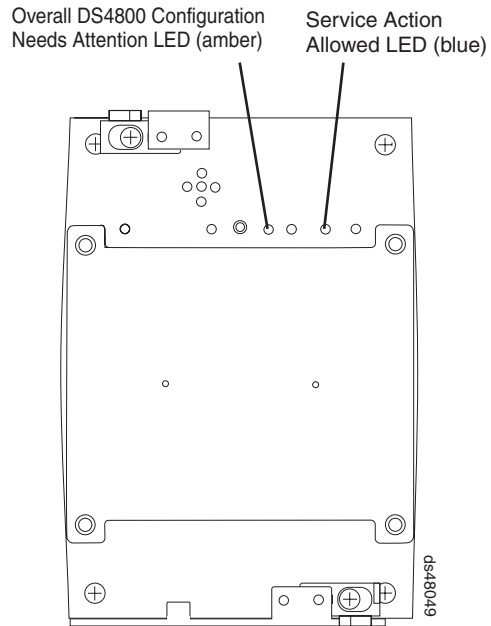

Figure 95. Interconnect-battery unit Needs Attention and Service Action Allowed LEDs
4. Is the Service Action Allowed status LED turned on? (Figure 95 on page 158 shows the location of the Service Action Allowed status LED on the interconnect-battery unit.)